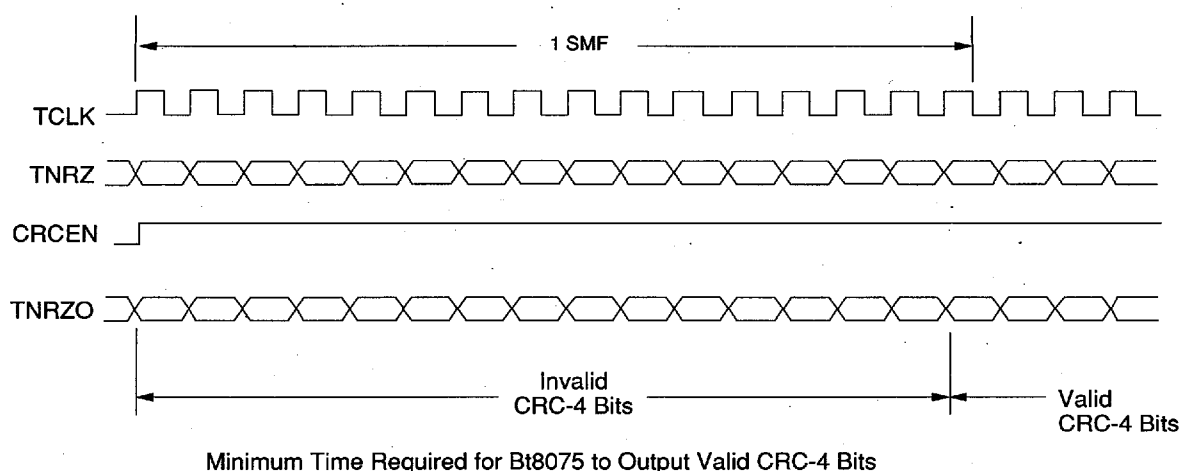

Figure 8. CRC-4 Output Timing
The CRC-4 bits are inserted in the even frames in the bit 1 position of these frames. There are four CRC-4 bits in each 8-frame Sub-MultiFrame (SMF). In odd frames, bit 1 of the first six frames of each 16-frame MultiFrame (MF) contains the CRC multiframe alignment signal (001011). Bit 1 of the last two odd frames of the multiframe (Frame 13, 15) contains the spare bits. Access to the international bit (bit 1 of each frame) is provided through the Bt8070 when the Bt8075 is in CRC-4 disable mode (see Figure 8).